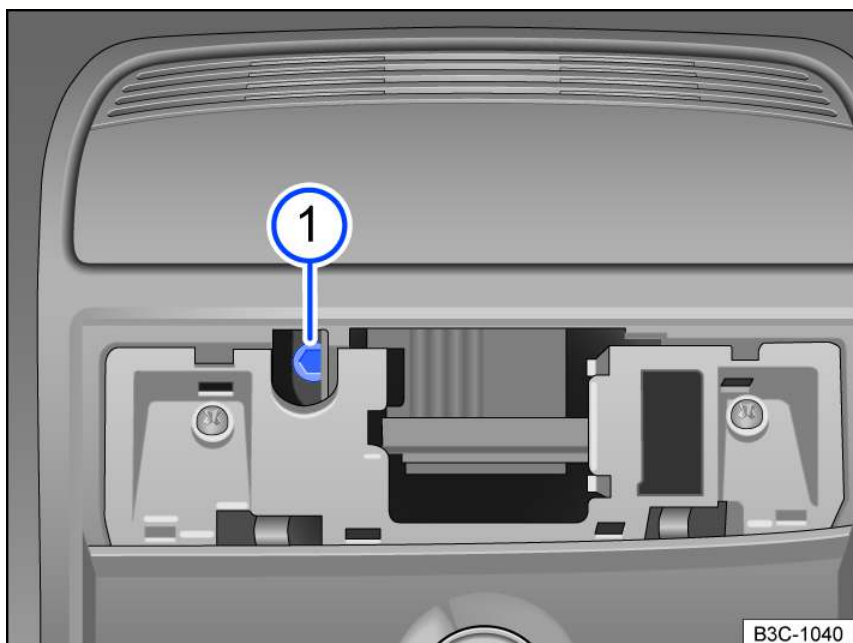

Fig. 58 Hexagon socket head bolt for closing the power sunroof.
2. Place a 4 mm hex socket wrench on the hexagon socket head bolt *fig. 58* ①.